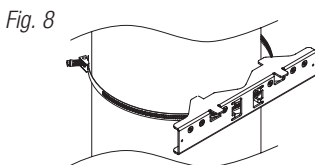

Fig. 8
6. Tighten the straps of the bottom bracket down by sliding the open end of the strap through the locking mechanism on the strap, then tighten screw with flat head screwdriver or 5/16" hex socket driver (Fig. 8, pg. 9).